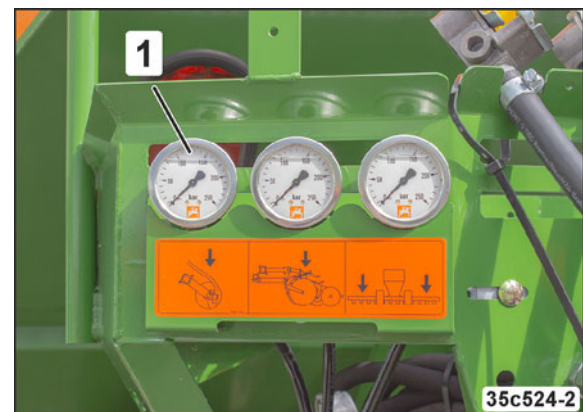

Fig. 113
- from the tractor seat on the pressure gauge (Fig. 113/1).